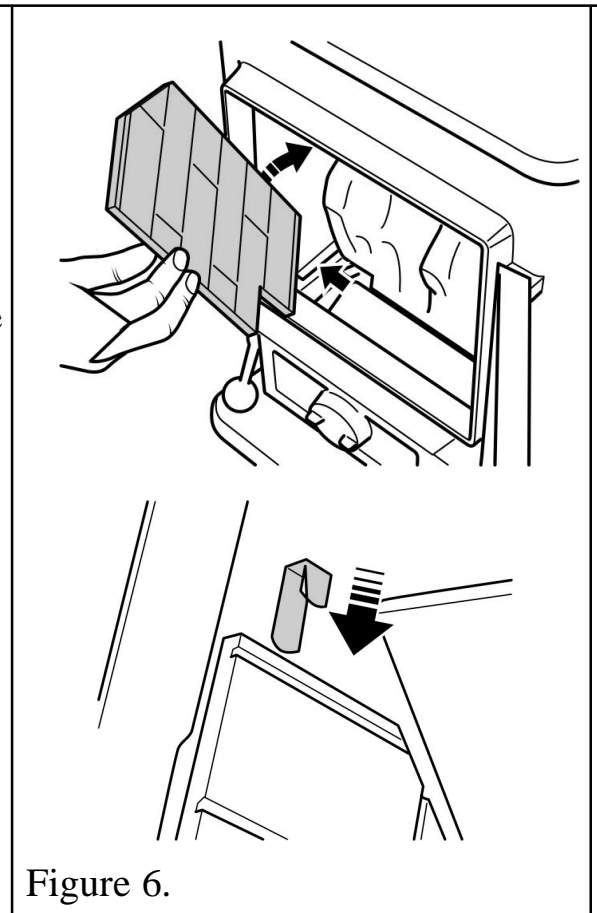

Figure 6.
3. Fit the left hand side wall against the left hand side of the firebox. Locate the bottom of the side wall into the channel along the bottom of the firebox (See figure 6). Supplied with the stove are two ceramic retaining brackets. One for each side of the firebox. Hold the ceramic side wall against the steel firebox plate and slide the long leg of a retaining bracket behind the steel firebox plate. Push down to hold the ceramic side wall in place.